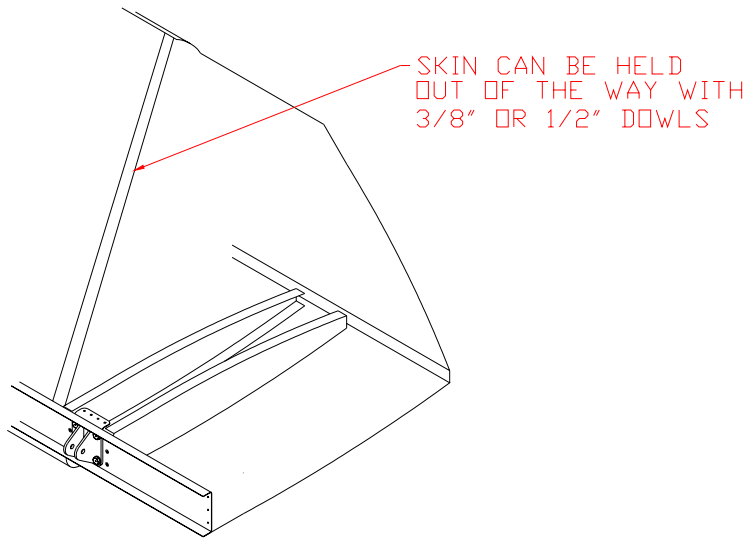

Figure 3.4.2
- 3) Cleco the Elevator Skin on to the spar assembly (one side only). Figure 3.4.2.